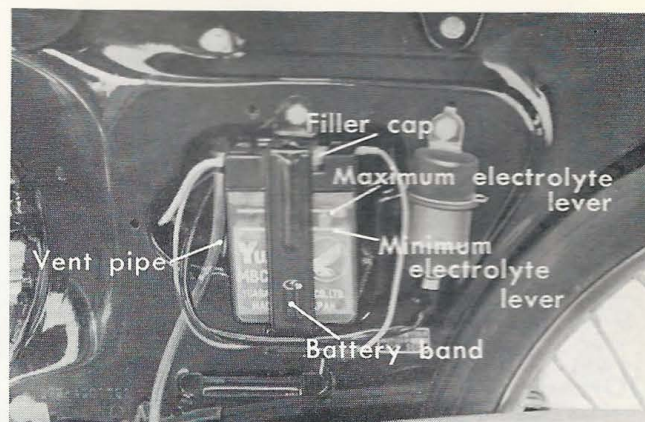

Figure 6-43. Battery electrolyte level
b. Always maintain the electrolyte level above the lower electrolyte level marking on the battery. When replenishing, add distilled water to raise the electrolyte level to the upper marking. (Fig. 6-43)